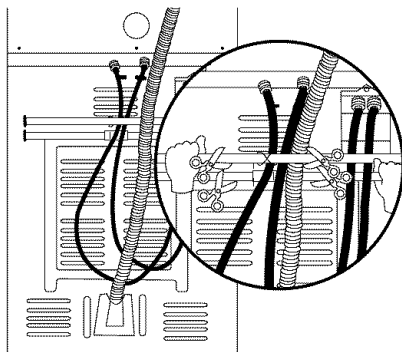
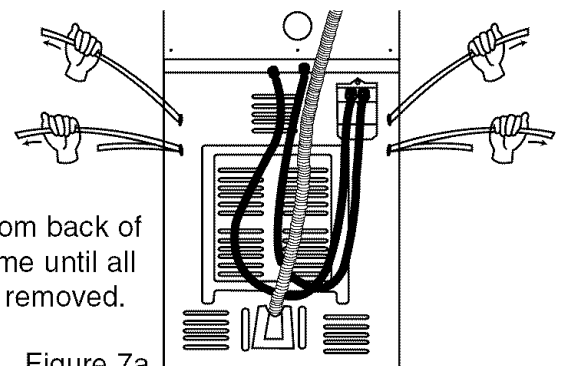

Figure 7
Figure 7a
6. At the installation site, locate the metal buckles attached to the shipping straps at back of washer. Carefully cut away straps (see figure 7) near both buckles, completely removing both buckles from the washer. (See figure 7a.)